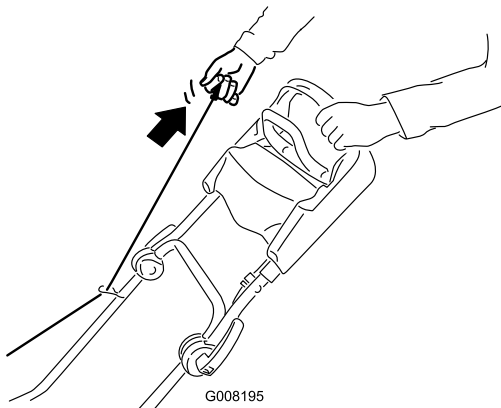
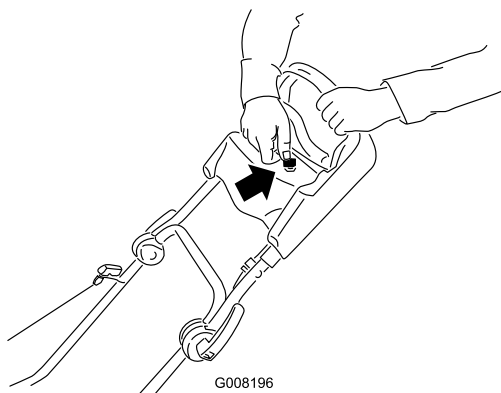

Figure 13
Figure 14
2. Pull the recoil starter (Figure 13) or turn the ignition key as shown in Figure 14 (model 21027 only).